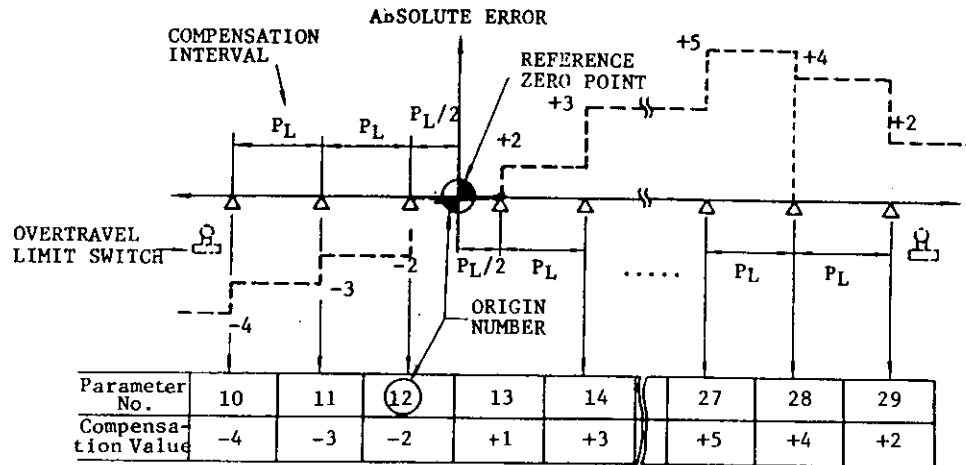

Fig. 4.10.2
- F. Arrange the measured values so that the error at the reference zero point is to be zero. (Refer to Fig. 4.10.2.)
In the case of Fig. 4.10.2, write "12" to the parameter No. 31.